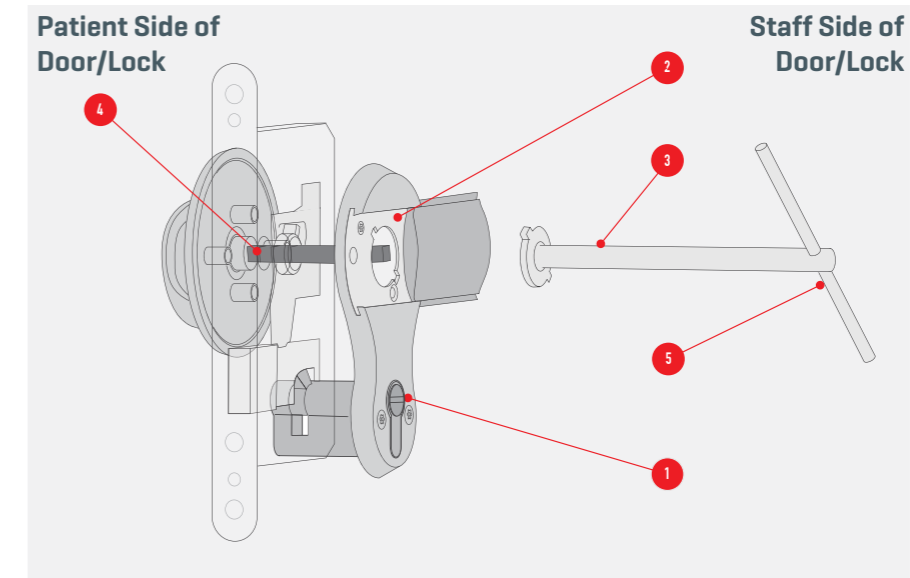

Figure 11.3
**While we trust they are rarely used, in an emergency situation, they may be the critical elements that save a life. The 5 methods are set out below in figure 11.3;**